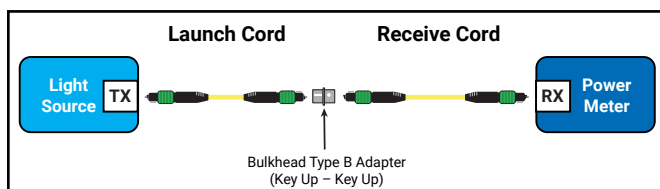

Figure 11c: Establish a reference
4. Connect the launch cord and receive cord between the light source and the power meter (see Figure 11c).